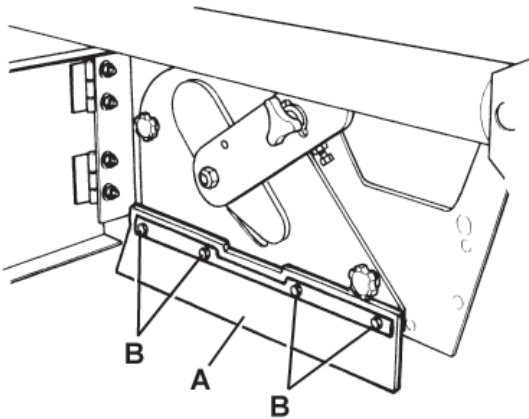
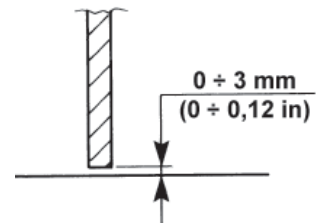

Figure 19
Figure 21
6. Check the side skirts (A, Fig. 19) for integrity.
7. Check that the distance from the floor of the side skirts (A, Fig. 19) is within 0 - 3 mm (see Fig. 21).
If necessary, loosen the screws (B, Fig. 19) and adjust the skirt position. Then tighten the screws (B).